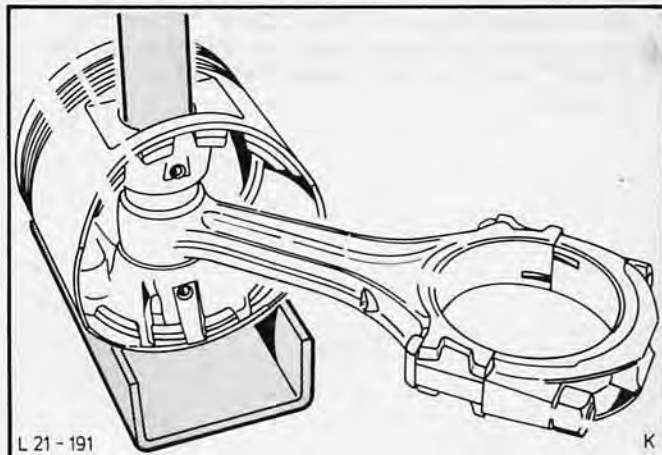

Fig.119. Drive out piston pin with a drift.
1. Drive the piston pin out of the piston using a drift or a press, Fig.119.